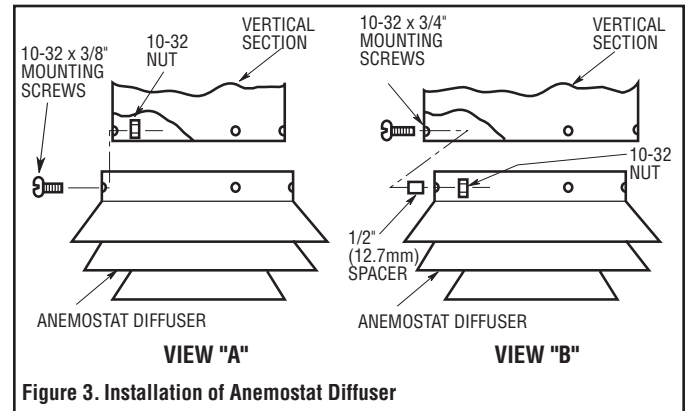

Figure 3. Installation of Anemostat Diffuser
2. For small (-S) and large (-L) diffusers, slide anemostat over vertical section and secure with three No. 10-32 x 3/8" (9.5mm) bolts and nuts. (See Figure 3, View A).